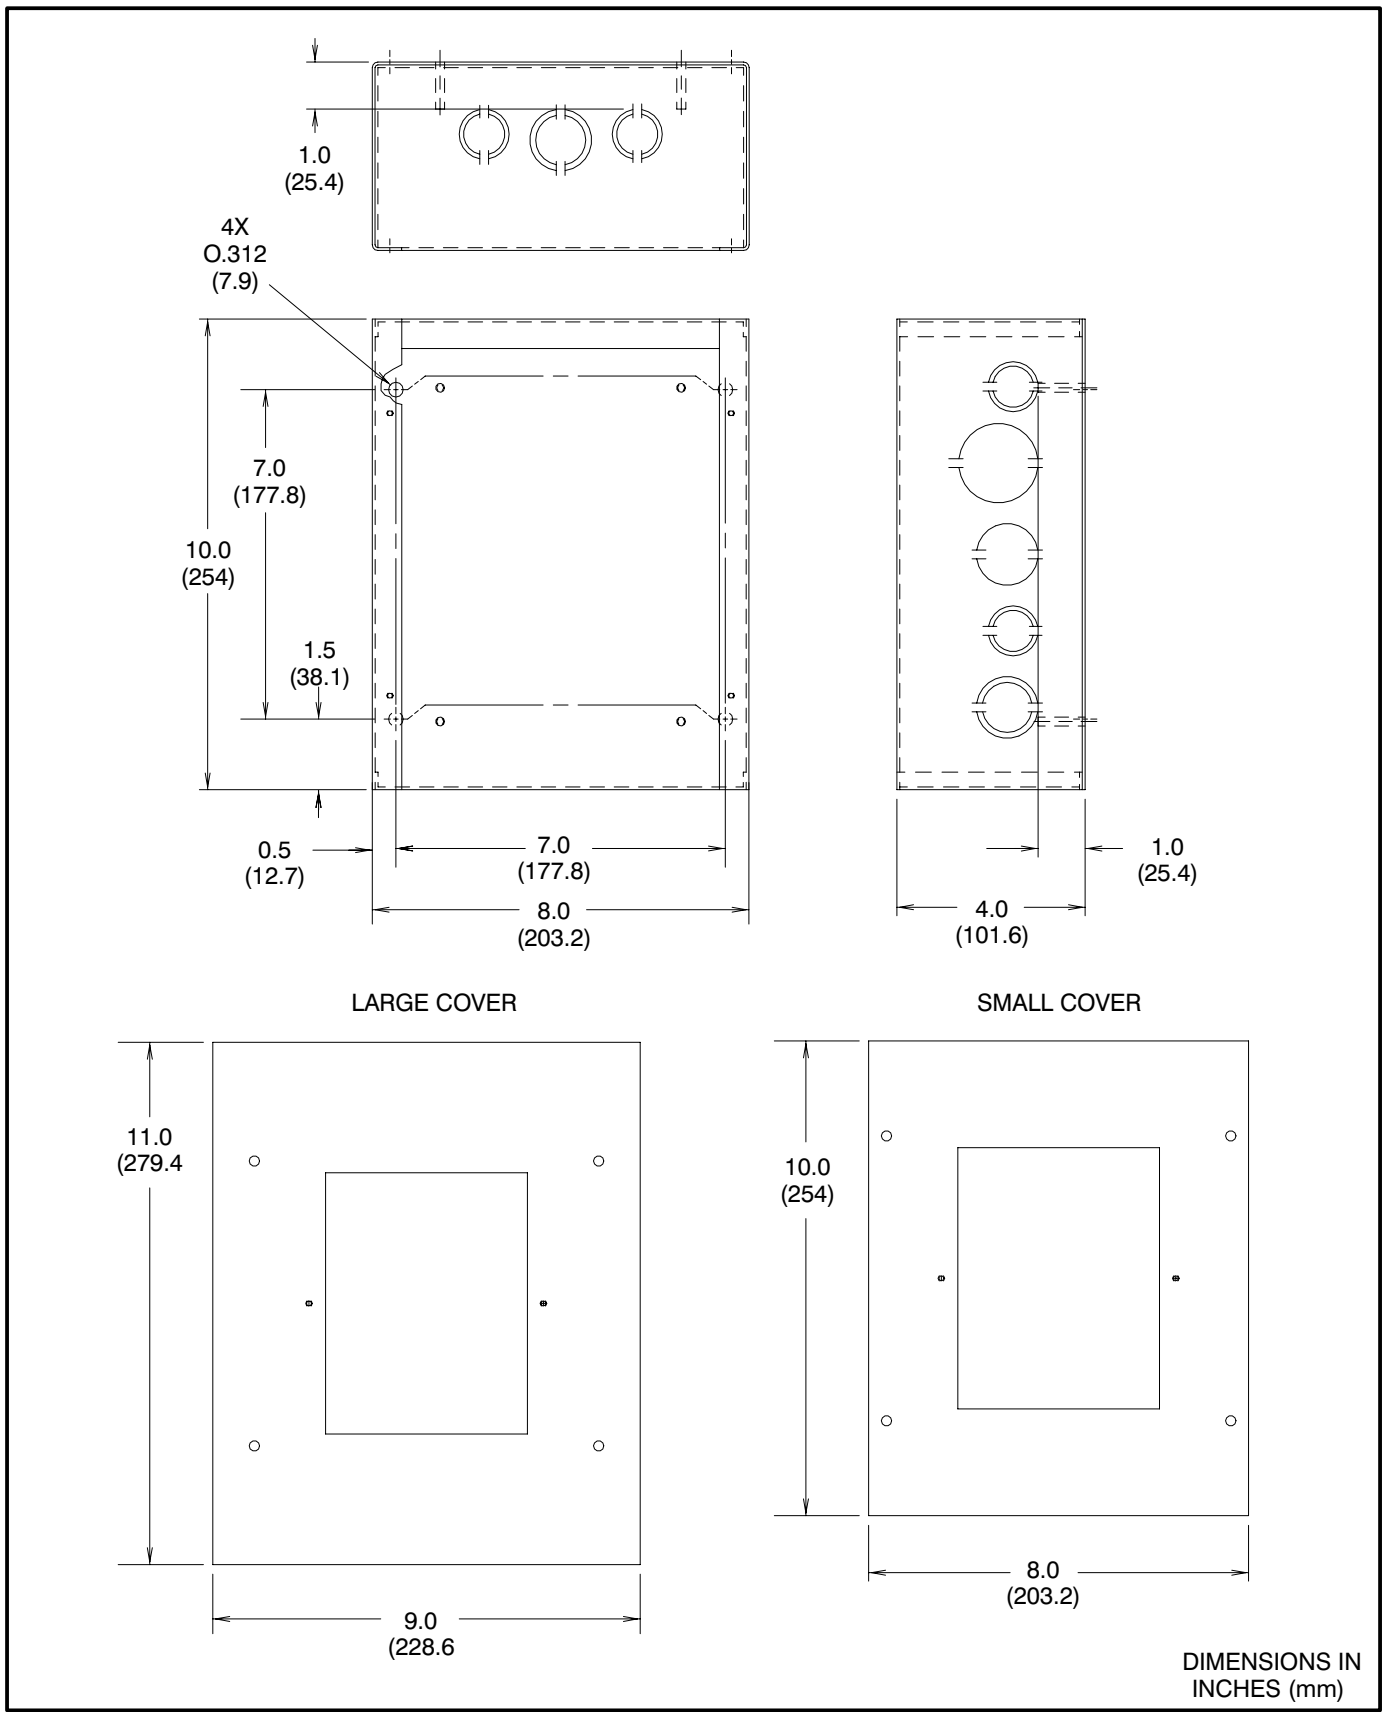

FIGURE 2. ANNUNCIATOR BOX OUTLINE
1. Refer to Figure 2 for the outline and mounting hole locations. Remove the annunciator cover from the junction box. Prepare the mounting location. Be sure to check for wiring or plumbing behind the wall before cutting or drilling.